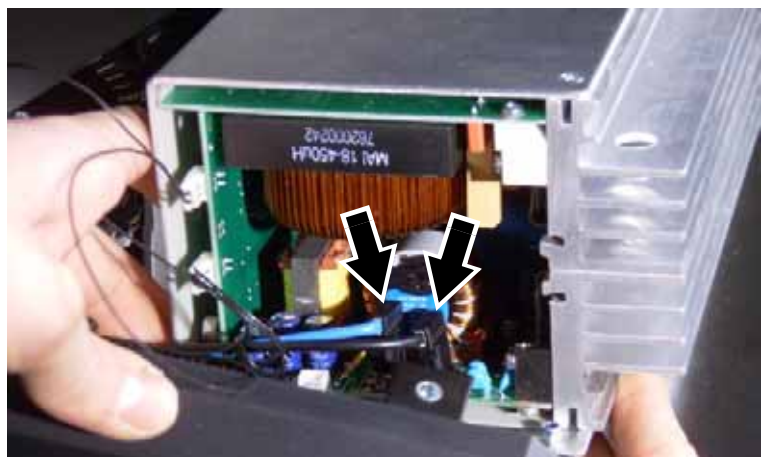

Figure 27
29. See Figure 27. Connect the blue lead and black lead from the ignitor (starter) to the spade connectors (arrowed) in the base of the new ballast. *Polarity is not important – the blue and black leads are interchangeable.*